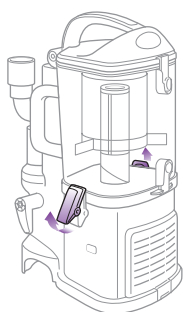

Fig. 19
- 1 Undo the latches on the sides of the dust cup by lifting them up and outwards to remove the dust cup from the motor base. (Fig. 19)